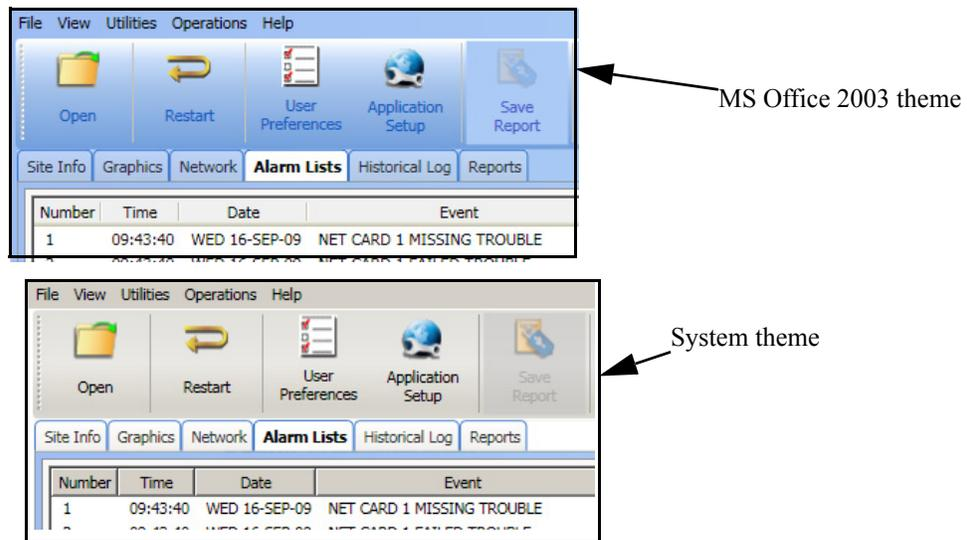

Figure 3-12 MS Office 2003 Versus System Theme
From the **User Preferences** dialog box, you may select one of two User Interface (UI) theme options by checking the radio button of the corresponding selection. Figure 3-12 shows the difference between the MS Office 2003 and System themes.